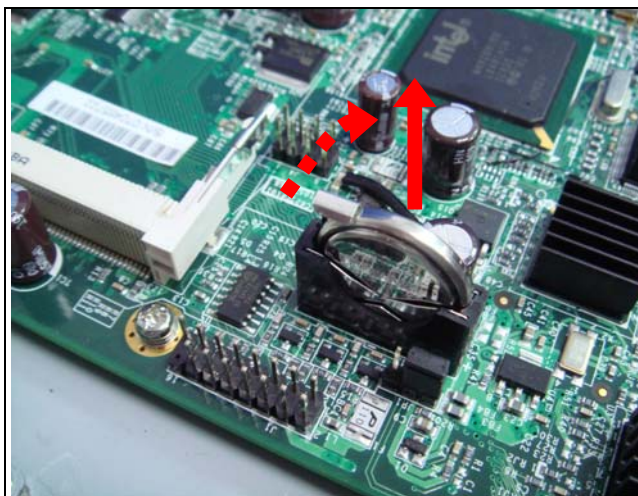
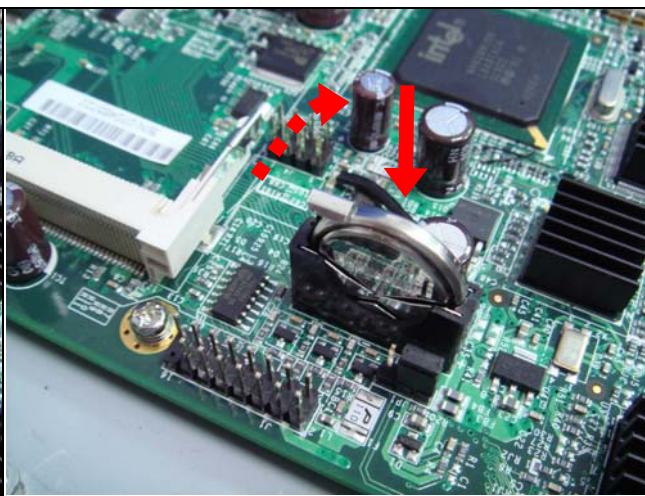

**Fig. 7-1** Compact Flash Card
**Fig. 7-2** Insert Compact Flash Card into the CF interface
1. Insert the Compact Flash Card (**Fig. 7-1**) into the CF interface (**Fig. 7-2**).